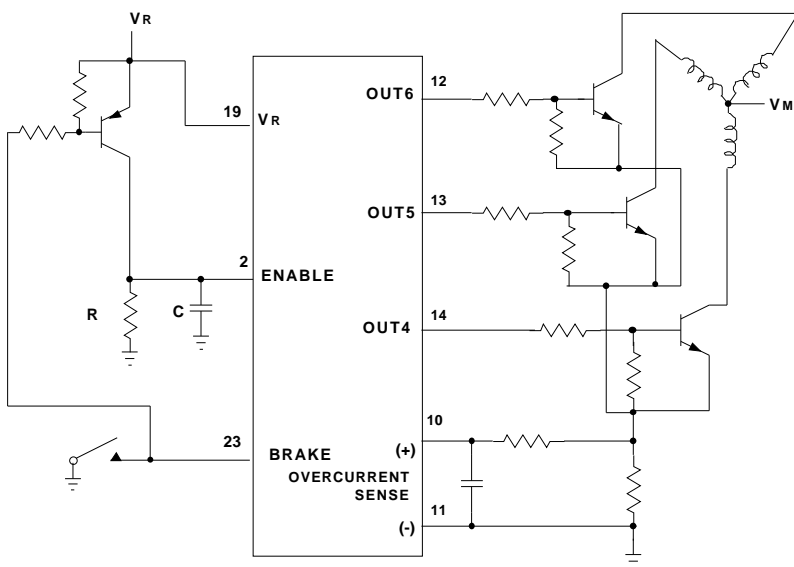
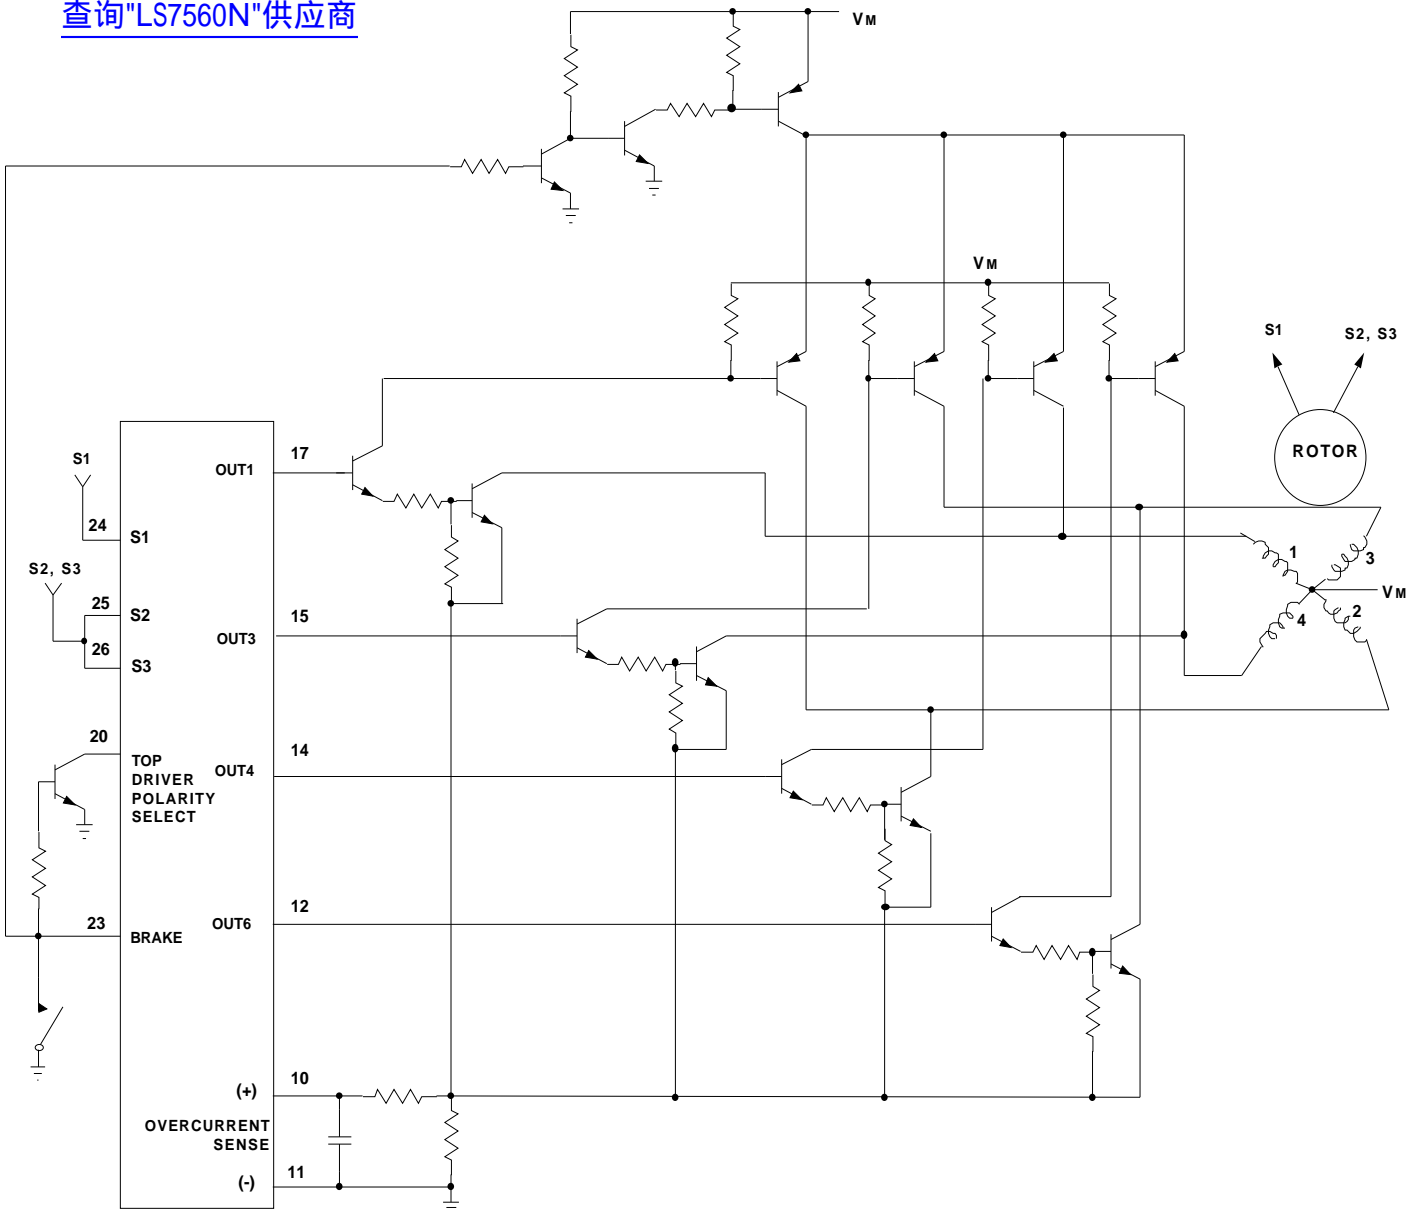
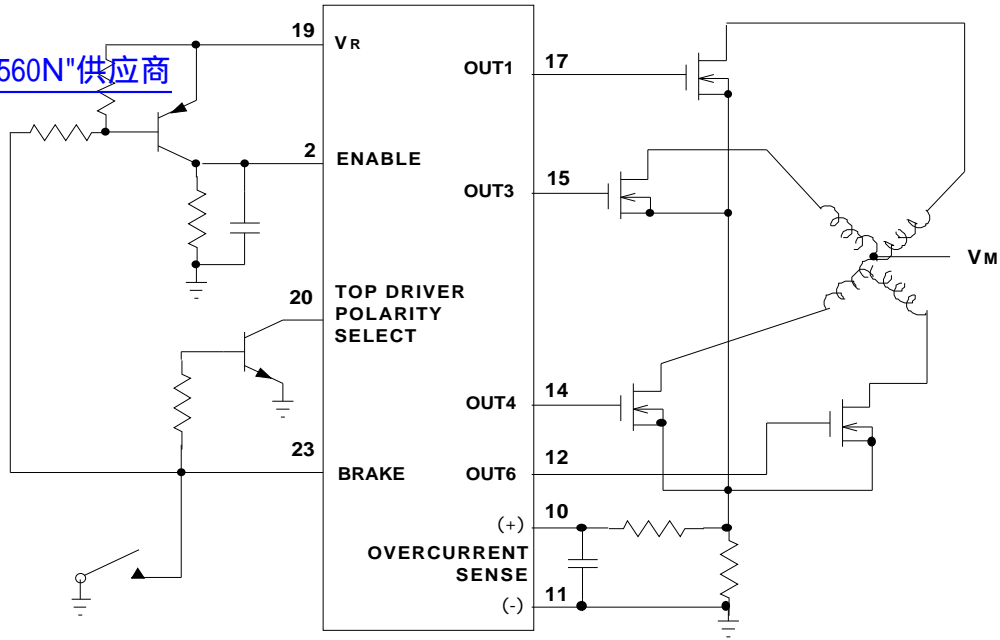

FIGURE 4. THREE-PHASE HALF-WAVE MOTOR CONTROLLER
FIGURE 6. FOUR-PHASE FULL-WAVE MOTOR CONTROLLER
FIGURE 7. FOUR-PHASE HALF-WAVE MOTOR CONTROLLER
**FIGURE 4.** This three phase half wave motor controller has no top power transistor to disconnect the windings from the power supply when the BRAKE is applied. Instead, a switching transistor is used which will permit braking for a time determined by the RC time constant. When the capacitor discharges past the ENABLE input switching point, the outputs will be turned off.
**FIGURE 6.** Four phase motor control requires only two Hall Sensor inputs spaced 90 electrical degrees apart. S1 is connected to one sensor and S2 and S3 are tied together and connected to the other sensor (Refer to Table 1). The Brake input (Pin 23) is used to control the Top Driver Select (Pin 20) and the Top Motor Drivers. When the Brake input is applied, the Top Motor drivers are turned off and the Top Driver Polarity Select is forced low turning on the Outputs 1 and 3. Since Outputs 4 and 6 are also turned on, the motor windings become shorted together.
FIGURE 7. This four phase half wave motor controller uses the same Brake circuit as in Figure 4 and switches the Top Driver Select from a high to a low as in Figure 6.